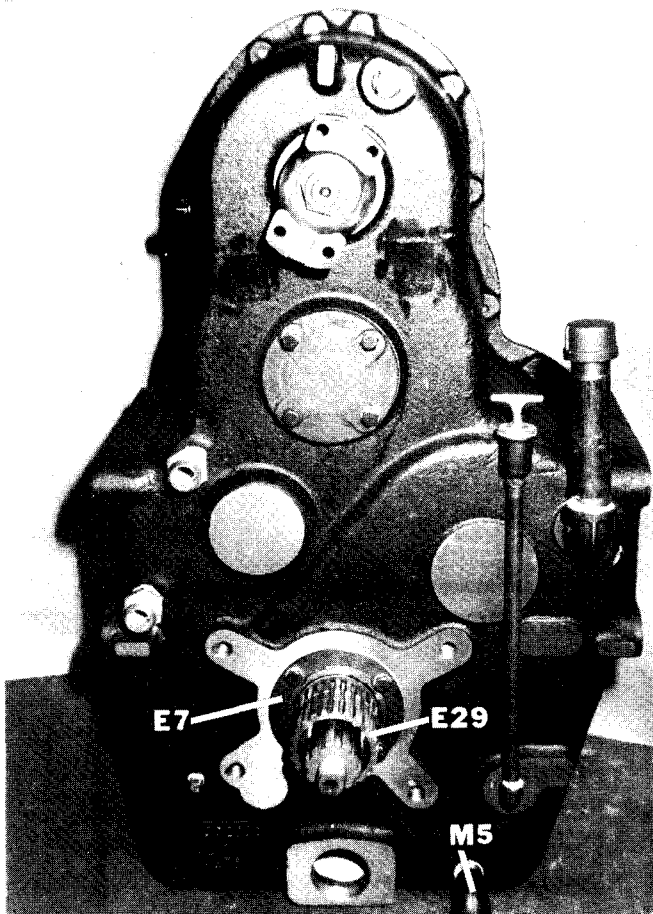

Figure 2
1. Remove drain plug (M-5) and drain transmission fluid. (Figure 2)
4. Remove cover (E-7) containing oil seal (Figure 2)